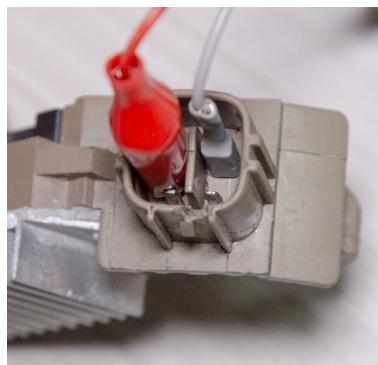

Figure 10. Connecting terminals to the voltage regulator connector
- ⚠️ WARNING! When connecting the clips to the connector, it is important to exercise caution as there is a risk (probability) of damaging (rendering inoperable) the regulator. The clips must be connected with fully covered insulation (Figure 10).**